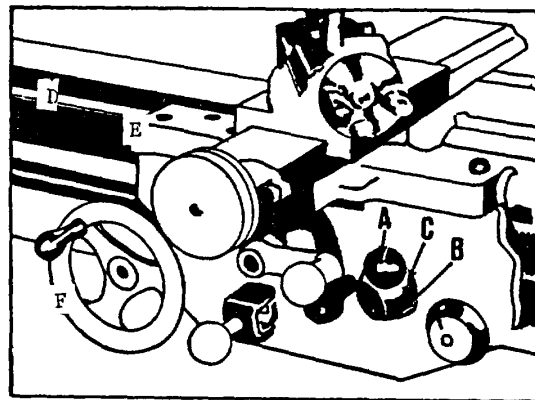

Fig. 30.
1. Place feed selector lever (A) Fig. 30, in the middle notch.
2. Move lever for half-nuts (B) Fig. 30, down to thread cutting position.
3. Loosen set screw (C) and move collar (D) Fig. 30, against boss of casting (E).
4. Turn apron handwheel (F) clockwise applying light pressure. After clockwise rotation of apron handwheel has stopped, tighten set screw (C) in collar (D), keeping collar against the end of casting boss (E), Fig. 30.